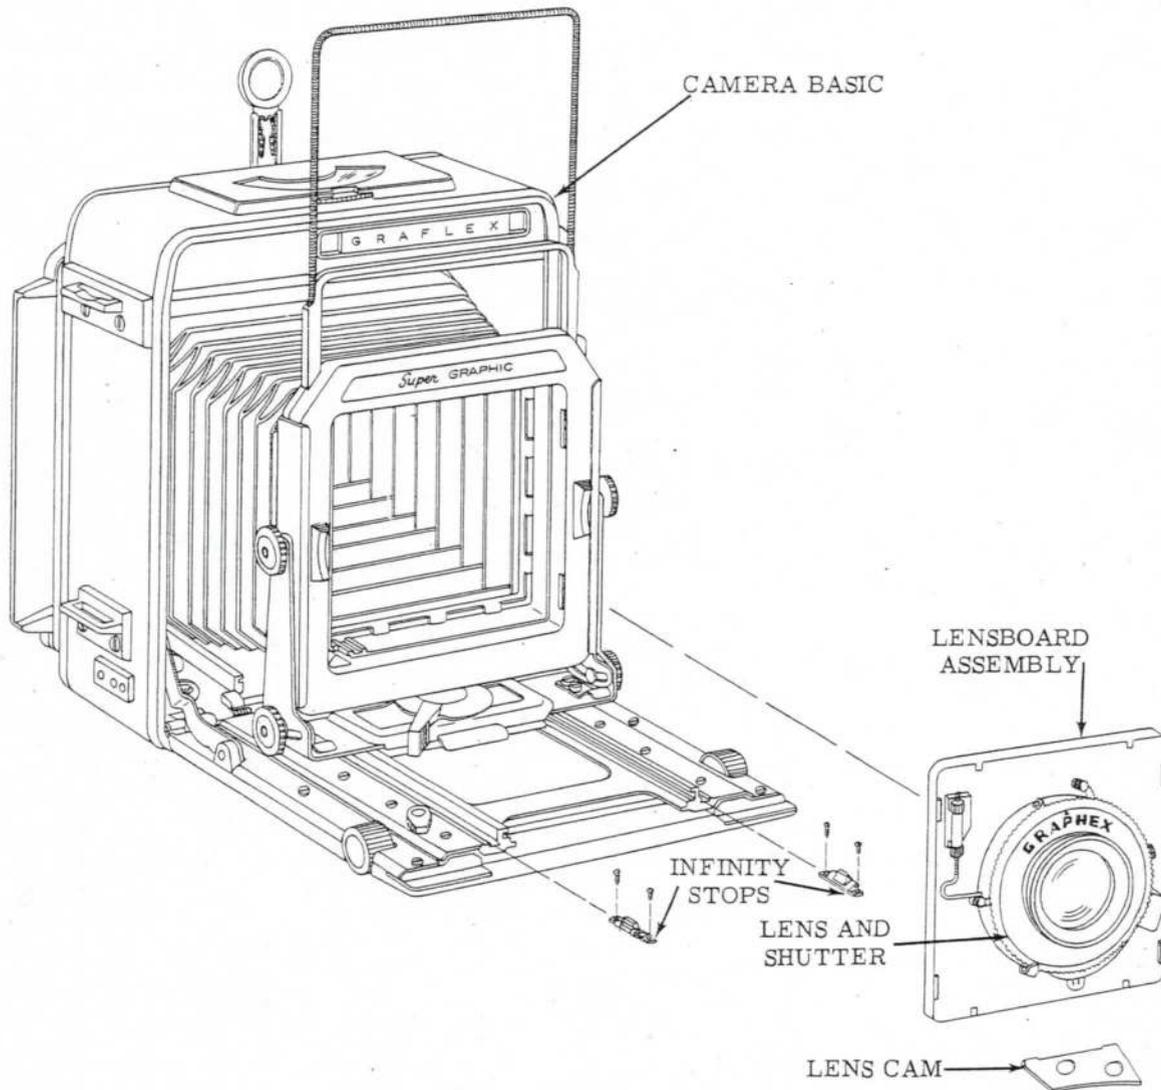

Figure 1. CAMERA COMPLETE
A. CAMERA COMPLETE - (figure 1)